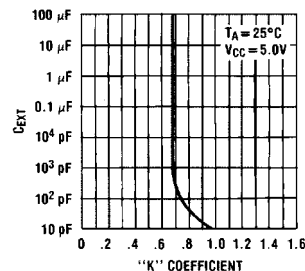

FIGURE 5.
- The "K" coefficient is not a constant, but varies as a function of the timing capacitor C_X. Figure 5 details this characteristic.
- Under any operating condition C_X and R_X must be kept as close to the one-shot device pins as possible to minimize stray capacitance, to reduce noise pick-up, and to reduce I X R and L di/dt voltage developed along their connecting paths. If the lead length from C_X to pins (10) and (11) is greater than 3 cm, for example, the output pulse width might be quite different from values predicted from the appropriate equations. A non-inductive and low capacitive path is necessary to ensure complete discharge of C_X in each cycle of its operation so that the output pulse width will be accurate.